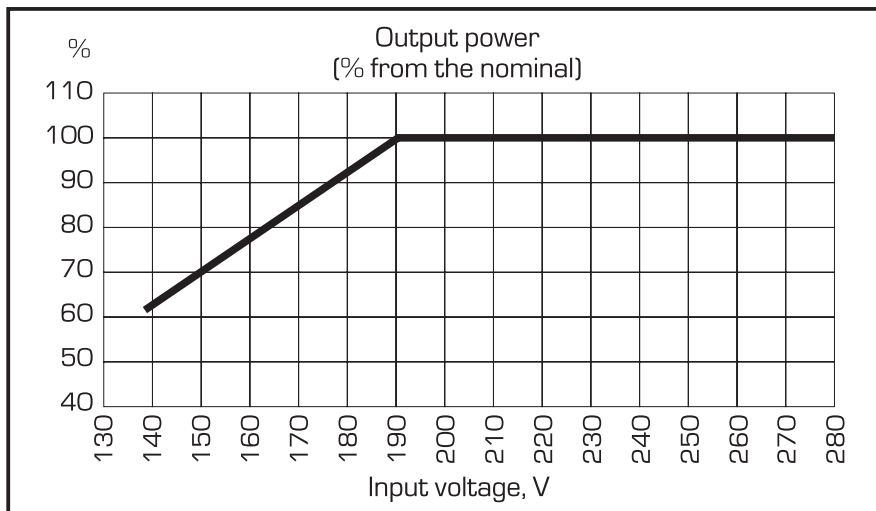

Fig. 1
* power calculation is made for stabilizer with input voltage from 190 V. If the voltage less than 190 V, please look fig.1.